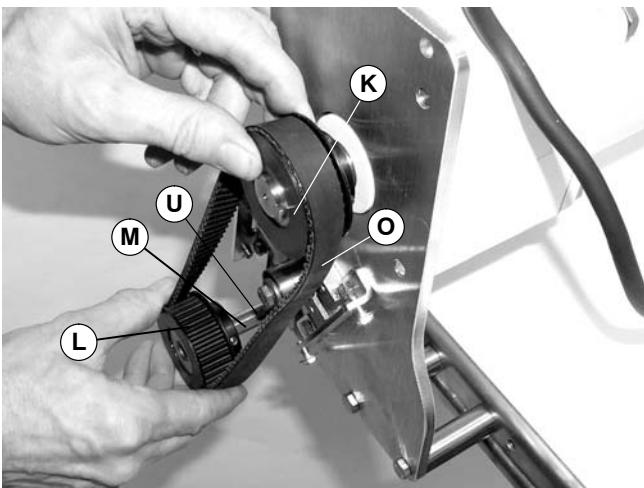

Figure 5
4. Install key (M of Figure 5) on conveyor input shaft (U).
6. Wrap timing belt (O of Figure 5) around driven pulley (L) and drive pulley (K). Install driven pulley (L) on conveyor input shaft (U).